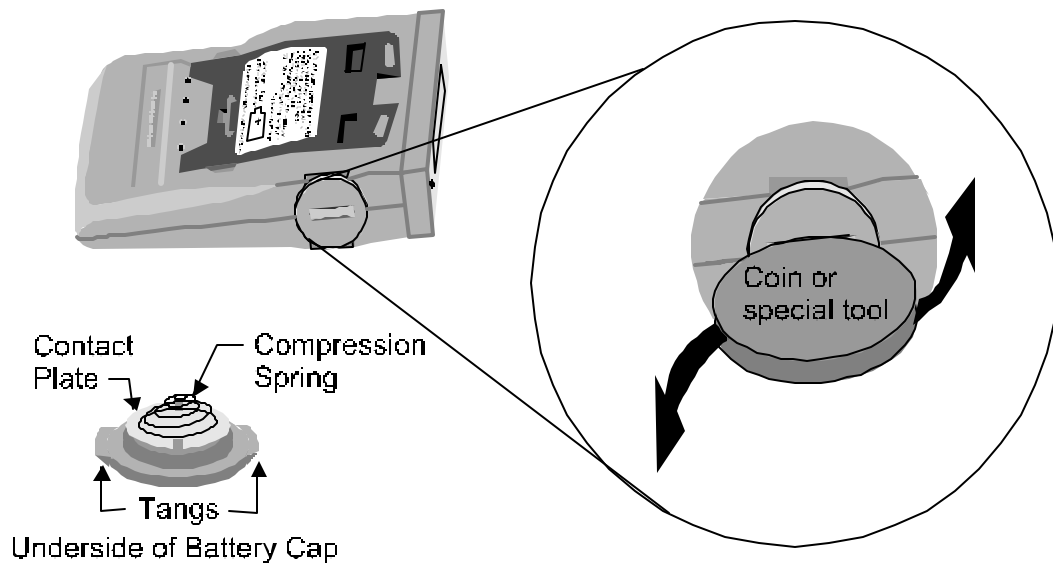

Figure 2.3 - Battery Cap Removal
- (iii) Maintain steady pressure on the special tool or coin so as to keep it fully engaged in the battery cap and rotate the battery cap through approximately 85° in a counter-clockwise direction (to remove cap, see Figure 2.3). If a battery is already fitted, the cap will normally release from the case under the action of the battery cap compression spring.